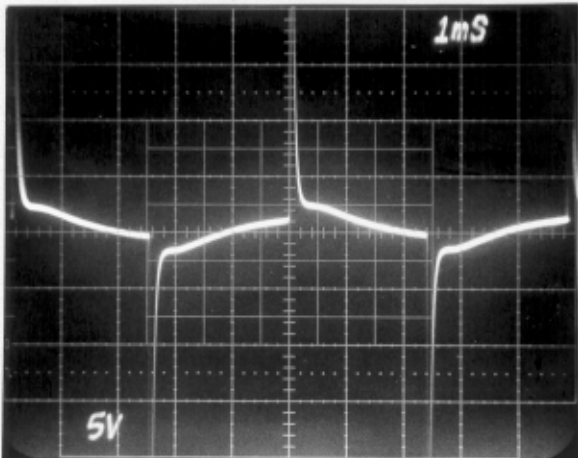

Fig. 12. Hi-Boost in.
- 8) Engage Hi-boost switch, compare to Fig. 12. (Disengage).